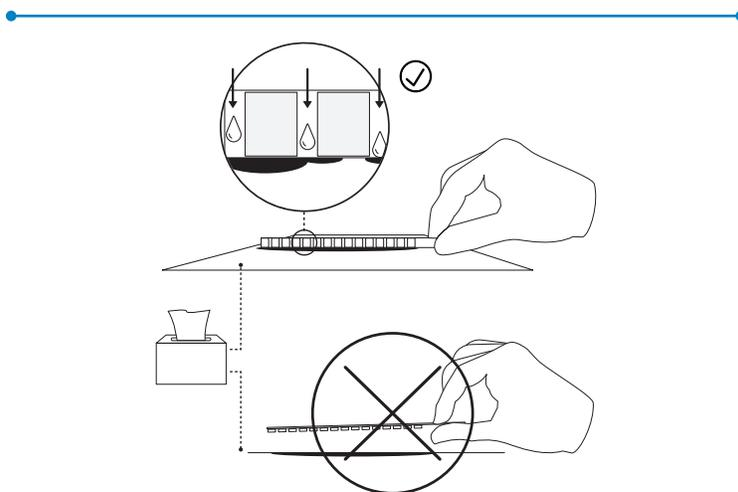

Fig. 13 Blotting long edge of strip.
7. Blot long edge of strip on absorbent paper to remove excess urine. **DO NOT** blot the top surface of the pads to avoid contamination (Fig. 13). Work quickly to blot excess urine.